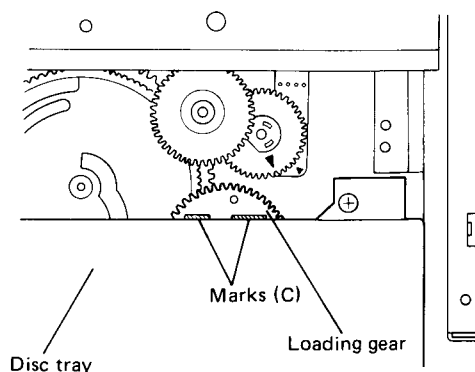

Fig. 10
7. With the disc tray in the fully open position, check that the marks (C) on the loading gear are in parallel with the rear edge of the disc tray. (Fig. 10)